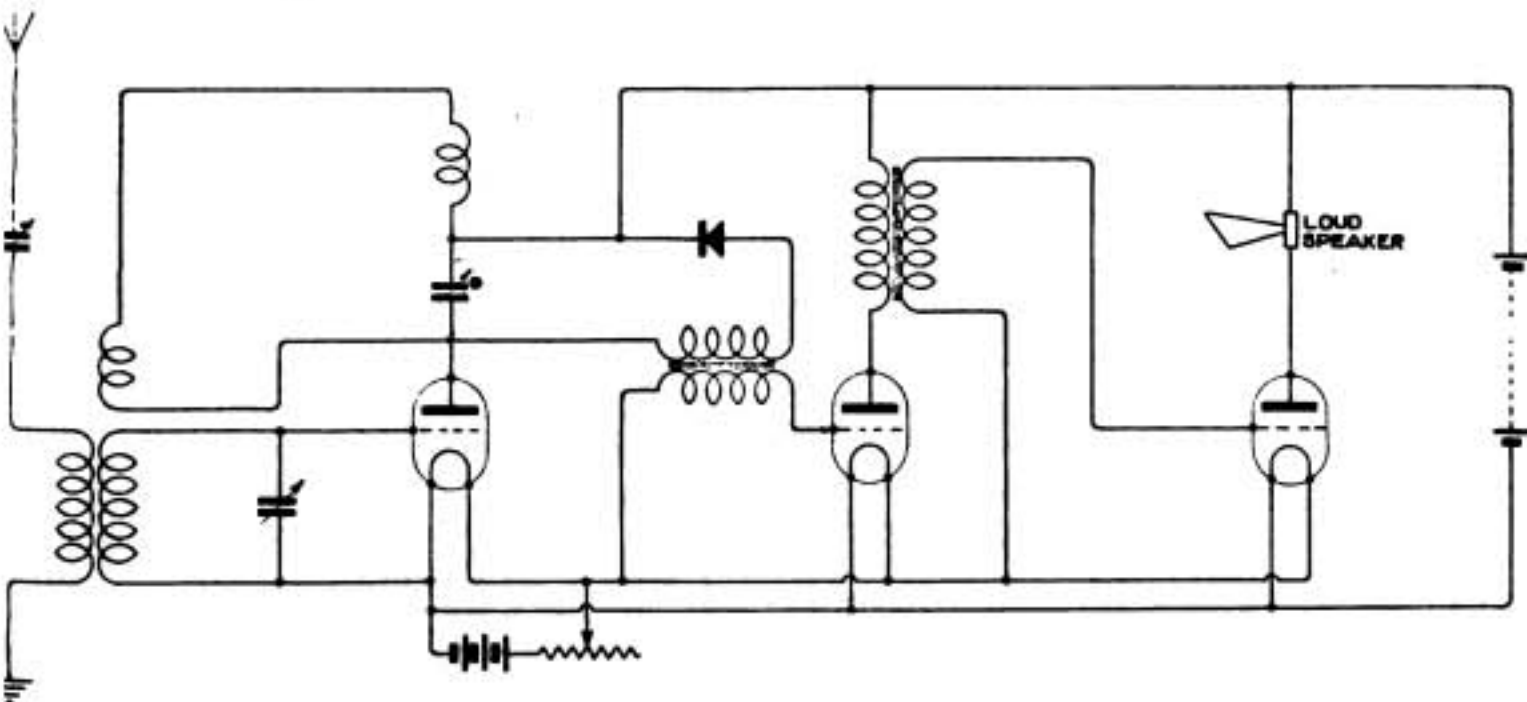

Fig. 2.
See diagram Fig. 2.
(1) Your aerial circuit is all wrong, as it shows the set with nothing connected to earth when on tune side and with the grid of the first valve earthed when on stand-by. Moreover, 300 megohms is far too high for a potentiometer resistance. You probably mean 300 ohms. (2) There should be very little difference at 1,000 metres. (3) They should be O.K. Your condenser or valve panel seems to be very leaky. (4) The set will not be very efficient below 100 metres.
"RADIO" (Salford) refers to the crystal set, Fig. 2, page 120, April 22nd issue, and asks (1) Is it suitable for local broadcasting. (2) Size of coil and wire required and capacity of condenser for wavelengths from 200/3,000 metres.
(1) Certainly, within a distance of about 12 miles from a broadcasting station. (2) A.T.I. 9" x 6" wound with No. 22. Coupling coil, 3" x 3" of No. 22, with one or twoappings. Closed circuit inductance, 6" x 4" of No. 26, with about sixappings. Variable condenser 0.0005 mfd.
(1) The connections are O.K. if the negatives of the two batteries are connected together as well as to the earth. (2) For British broadcasting, 80 ft. of No. 22 for the A.T.I., and 50 ft. of No. 26 for the reaction. (3) You are unlikely to get such a range—50 ft. is more like it. (4) Certainly; see Fig. 2, page 272, May 27th, and many others.